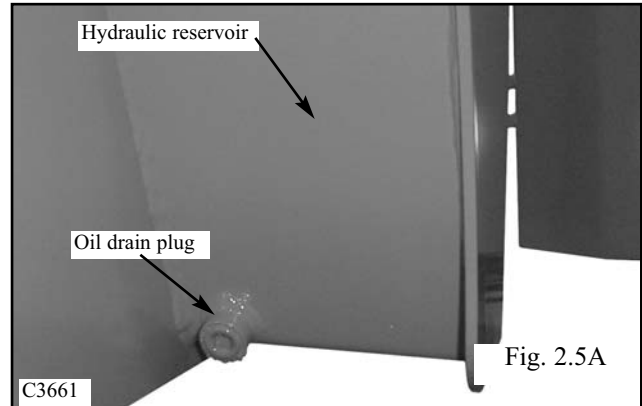

Fig. 2.5A
- 1 Change the hydraulic oil by removing the drain plug in the bottom of the hydraulic oil reservoir. (Fig. 2.5A) Be prepared to contain approximately 17.4 gal (66 litres) of fluid.
- 1 Change the hydraulic oil by removing the plug in the bottom of the oil reservoir. (Fig. 2.5A) Be prepared to contain approximately 17.4 gal (66 liters) of fluid.